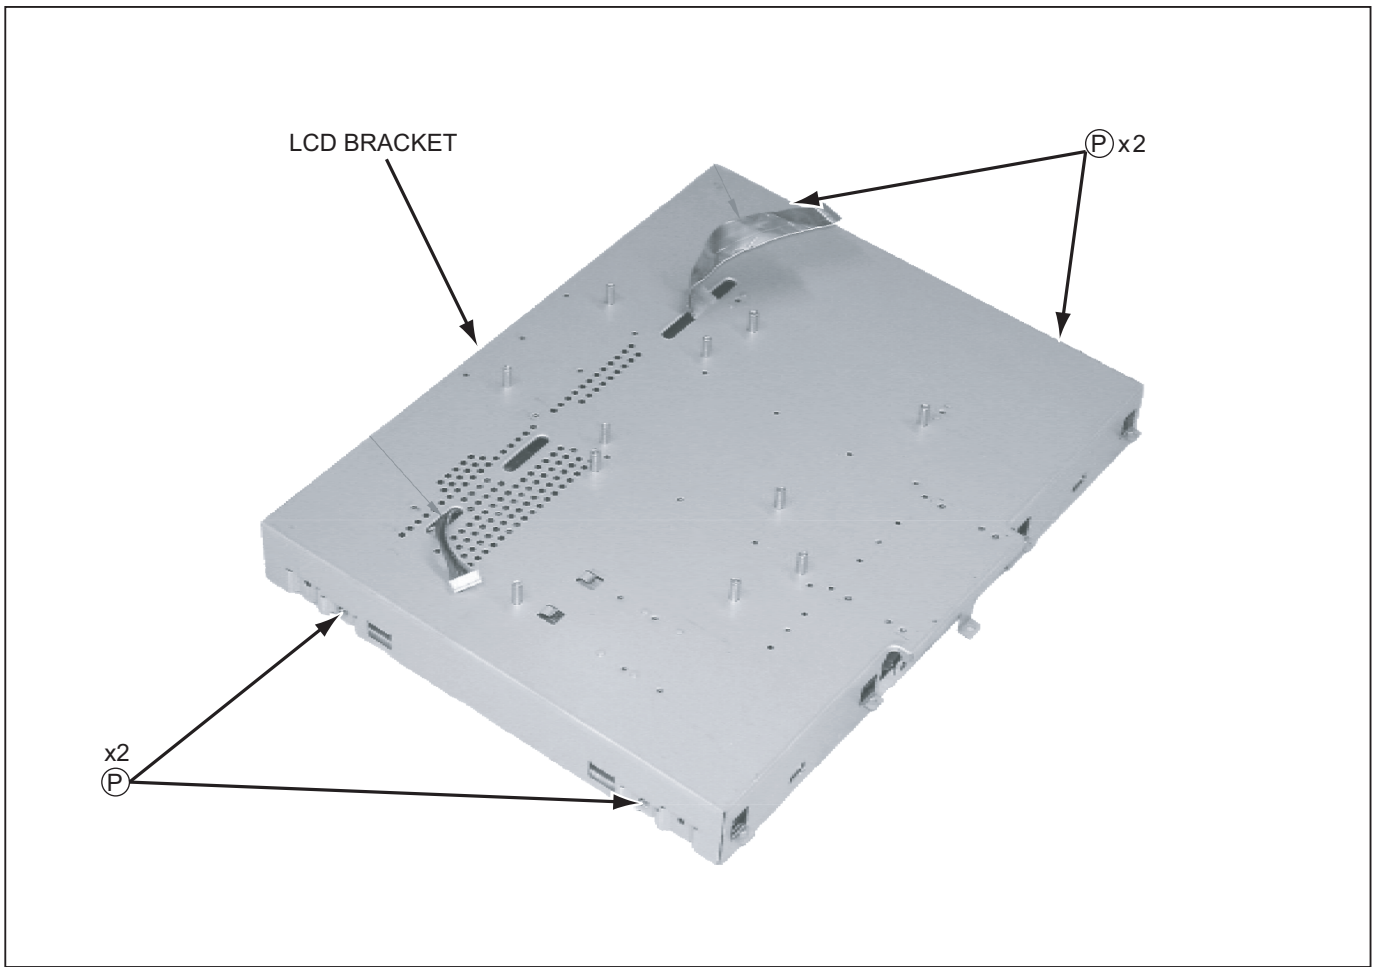

Fig.8
- (3) Remove the 4 screws **[P]** and remove LCD BRACKET. (Fig.8)